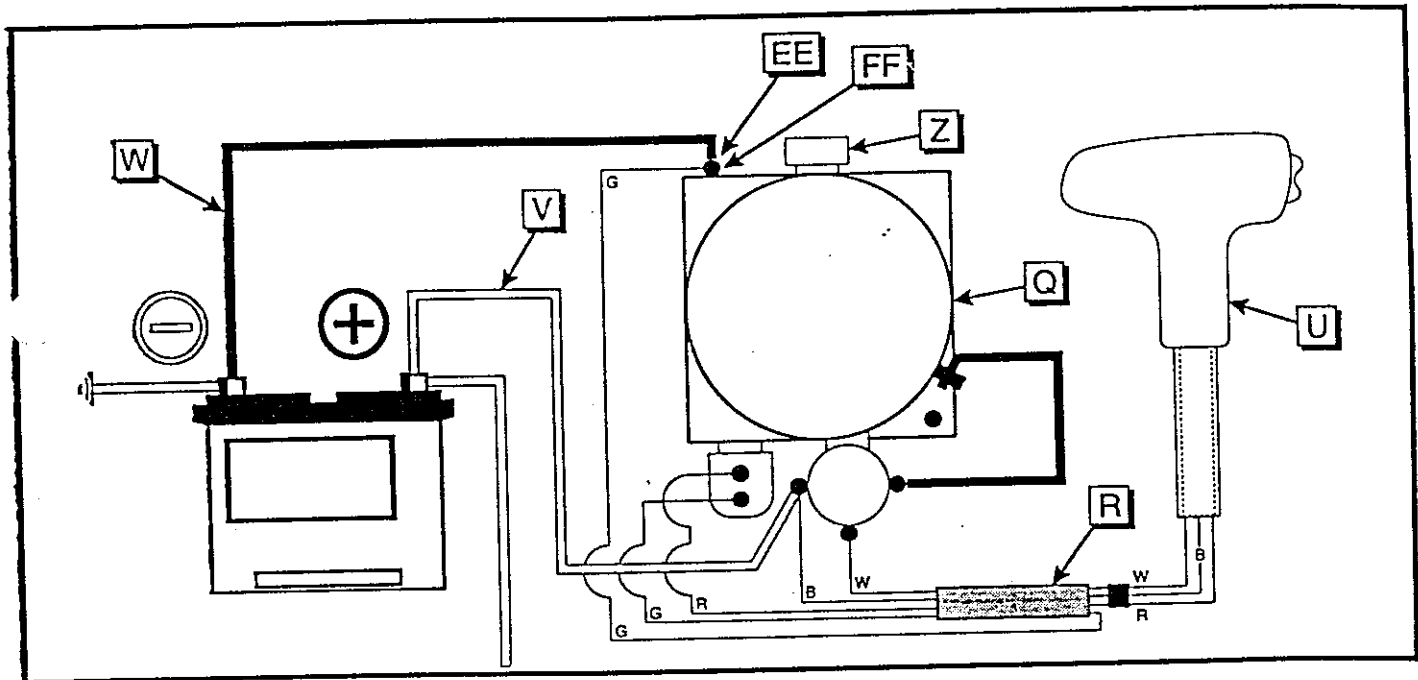

fig. 3-2
- d. Re-install the Hydraulic Hose (J) connection to the Hydraulic Lift Pump (Q).
- e. Remove the Hydraulic Fluid Fill Cap (Z) and fill Hydraulic Lift Pump (Q) with 1.5 Qts. of DEXRON II hydraulic oil (included with kit). Replace Hydraulic Fluid Fill Cap (Z).
- f. Mount the Speed Control Lever (U) to the Speed Control Bracket (M) using the two (2) 1/4-20 x 1-1/4" Long Capscrews (L) & 1/4-20 Locknuts (GG).
- g. Refer to the Wiring Diagram (fig.3-2) to connect the Speed Control Lever (U) to the Hydraulic Lift Pump (Q) with the Wiring Harness (R). Connect the
- Positive (+) Battery Cable (V) to the Hydraulic Lift Pump (Q). Then connect the Negative Battery Cable (W) and the green wire from the Wiring Harness (R) to the top of the Hydraulic Lift Pump (Q) with one (1) 3/8-16 Capscrew (EE) & one (1) 3/8" Lockwasher (FF).
- i. Mount the new Cover Plate (X) by installing the four (4) #10-24 x 3/8" Screws (Y) included in the Kit, or use the existing screws. Only one of the two cover plates included in the kit will fit the saw. Dispose of the other plate. Apply the Decal (DD) to the Cover Plate (X).